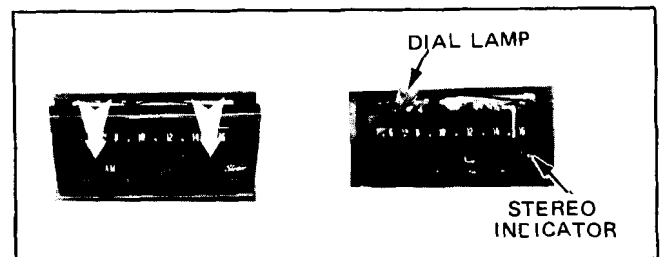

Fig. 15-57 Radio Dial and Stereo Light Removal
2. Press the dial plate down (Fig. 15-57) and tilt out at top to remove.